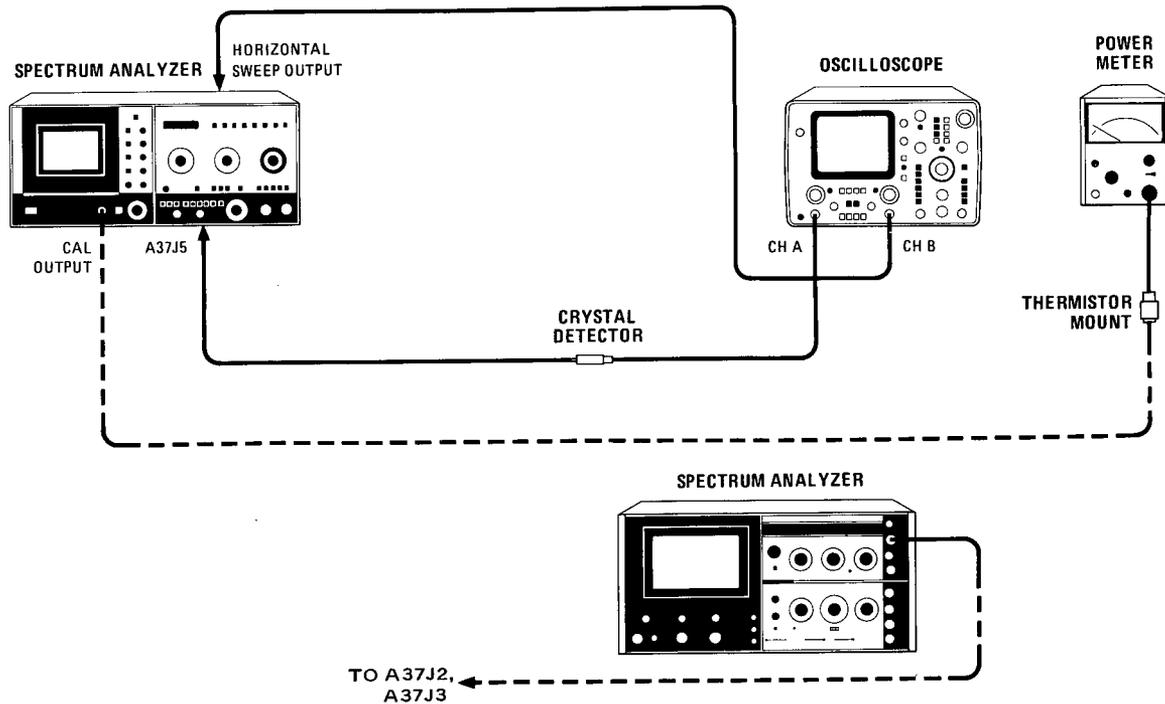

Figure 5-37. Third Converter Adjustment Test Setup
- c. Reconnect power cord, set LINE switch ON, connect equipment as shown in Figure 5-37, and set 8565A controls as follows: